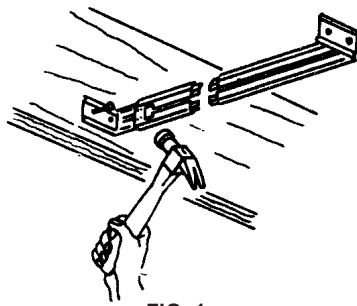

FIG. 1
1. Nail one B-6 bar hanger to ceiling joist, FIG. 1, or attach to suspended ceiling support member with clamps in Packet 94. Standard 1 1/2" carrier channels can be used to install fixture.